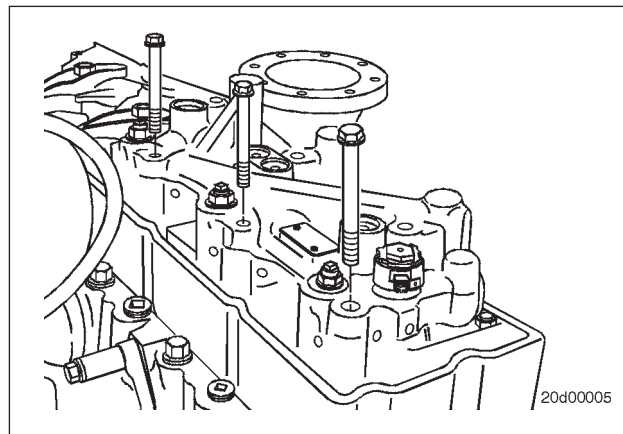

FIG. 5
3. Place 3 mounting bolts in the mounting bolt holes on the slave piston side of the brake housing (next to slave piston adjusting screws). Tighten the three bolts to 7 N•m [5 ft-lb] (Fig. 5).